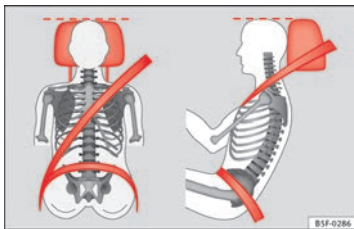

Fig. 3 Correctly adjusted head restraint viewed from the front and the side.
- Adjust the head restraint so that its upper edge is, as far as possible, at the same level as the top of your head, or at the very least, at eye level ⇒ Fig. 3.